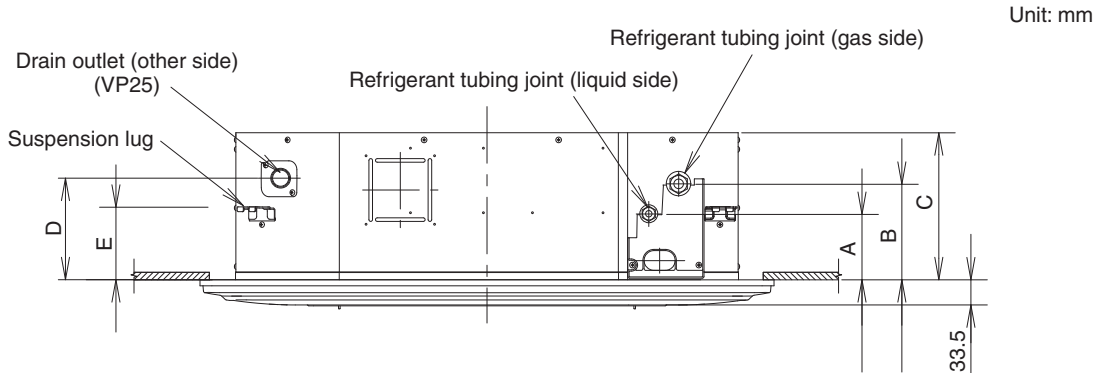

Fig. 3-87
- Determine the pitch of the suspension bolts using the supplied full-scale installation diagram. The diagram and table (Fig. 3-87 and Table 3-6) show the relationship between the positions of the suspension fitting, unit, and panel. Use the nut (field supply) and washer (supplied) for upper and lower position of the suspension lug.